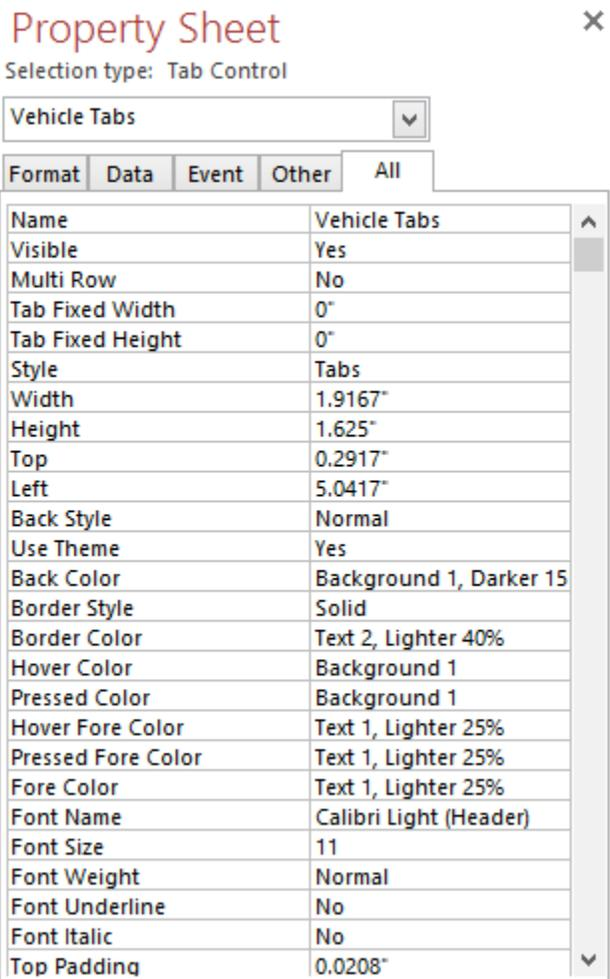

Figure 39: Tab Control Properties Window
- a. Name the Tab Control: To select the Property Sheet of the overall tab control, click to the right side on the second page. Change the *Name* property from its default name to “Vehicle Tabs” as shown in Figure 39.